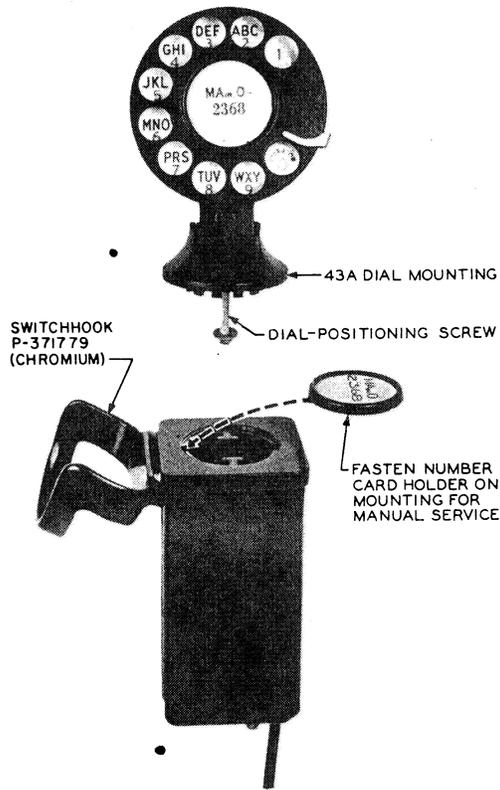

Fig. 16 — Assembly of 43A Dial Mounting on G-type Handset Mounting
6.08 The G-type handset mounting is used with the 211-, 212-, and 213-hang-up type hand telephone sets (see Fig. 16 and 17). The earlier 41A dial mounting is secured in the same manner as shown for the 43A.